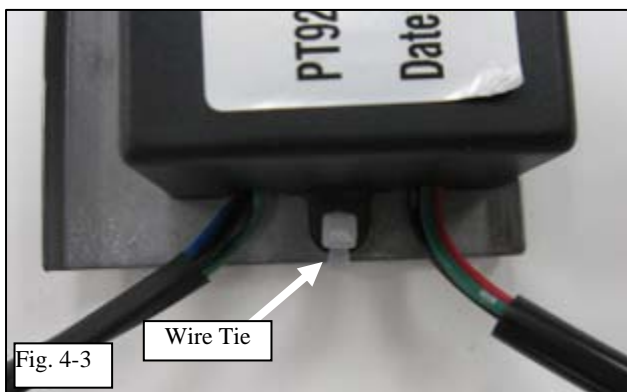

Fig. 4-3
(1) Orient the wire tie so that the head is on the front side of the bracket.
(4) Trim the wire tie.
(5) Secure the ECU to the bracket using the bottom mounting hole with one (1) small wire tie as shown. (Fig. 4-3)